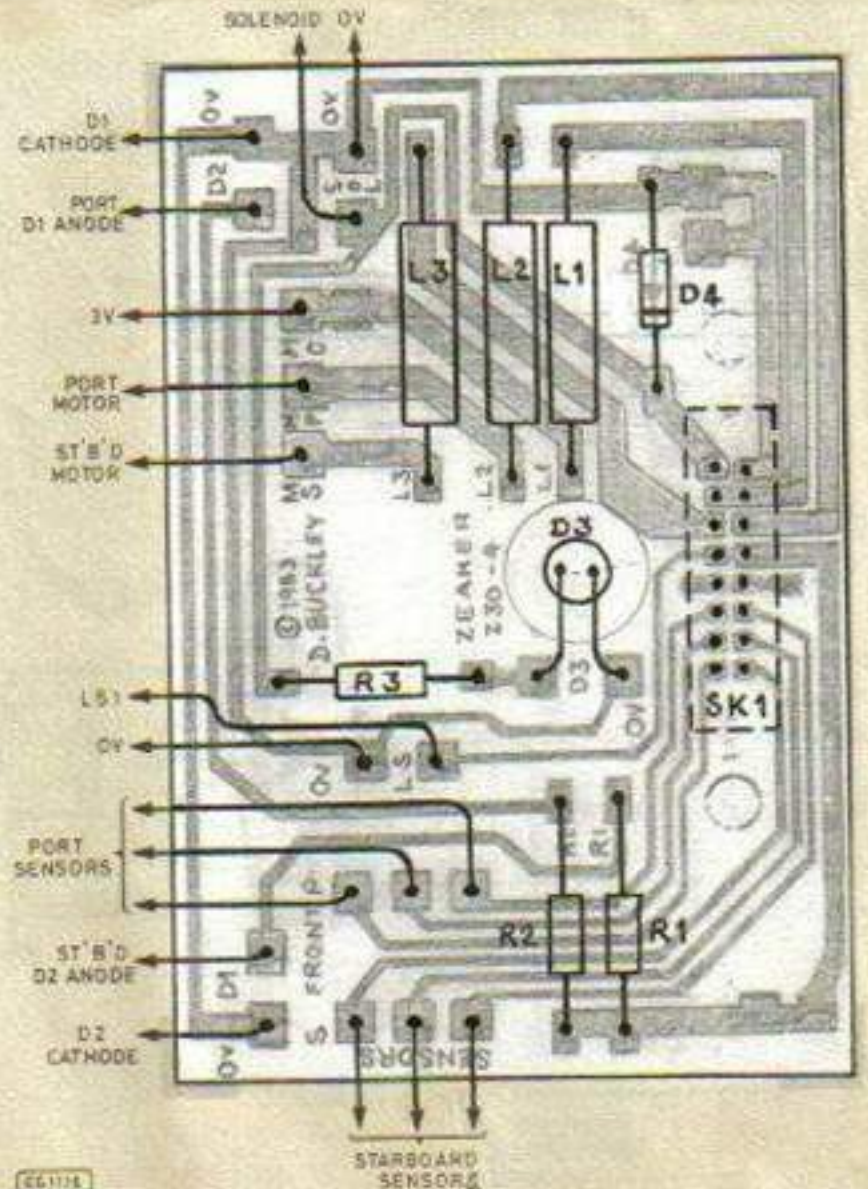

Fig. 10. Component layout
The vehicle p.c.b. with the component layout shown in Fig. 10. The components are mounted on the solder side of the board with the exception of SK1. Before fitting the components, solder should be run onto each square pad to form solder bumps. The diode, resistors and RF chokes should then be soldered, blobbing the ends of
the leads into the solder bumps (Fig. 10). The 16-way Molex connector (SK1) should be fitted from the opposite of the board and soldered in place. (Note 4)
- 4 Make sure that the Diode D4 is the correct way round with the band as shown in Fig. 10. Incorrect connection will damage the Zeaker Control Station electronics.